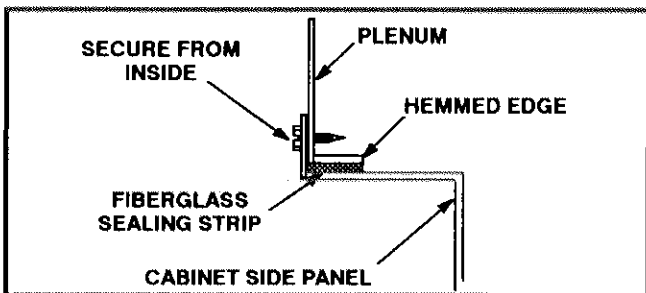

FIGURE 7
- 4– In closet installations, it may be necessary to install sheet metal screws from the inside. If this is the case, make plenum with a removable front to install screws as shown in figure 7.